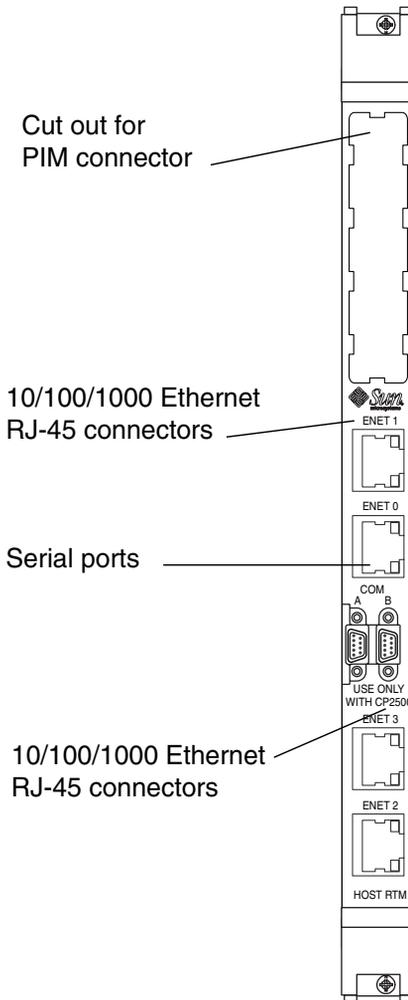

FIGURE 2-20 Connectors on the Netra CP2500 Host Rear Transition Module (RTM-H)
10. Make the necessary cable connections to the rear transition module. Tighten the screws on the cable to a torque of 0.23 N.m (2 in.-lb). FIGURE 2-20 shows the connectors on the host rear transition module.